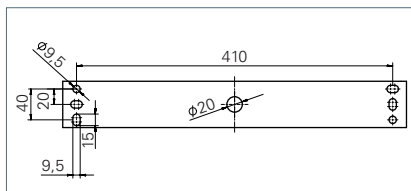

Fig. 7: Hole pattern.
- ▶ Mount the holder to the wall or ceiling using suitable screws, see Fig. 7.